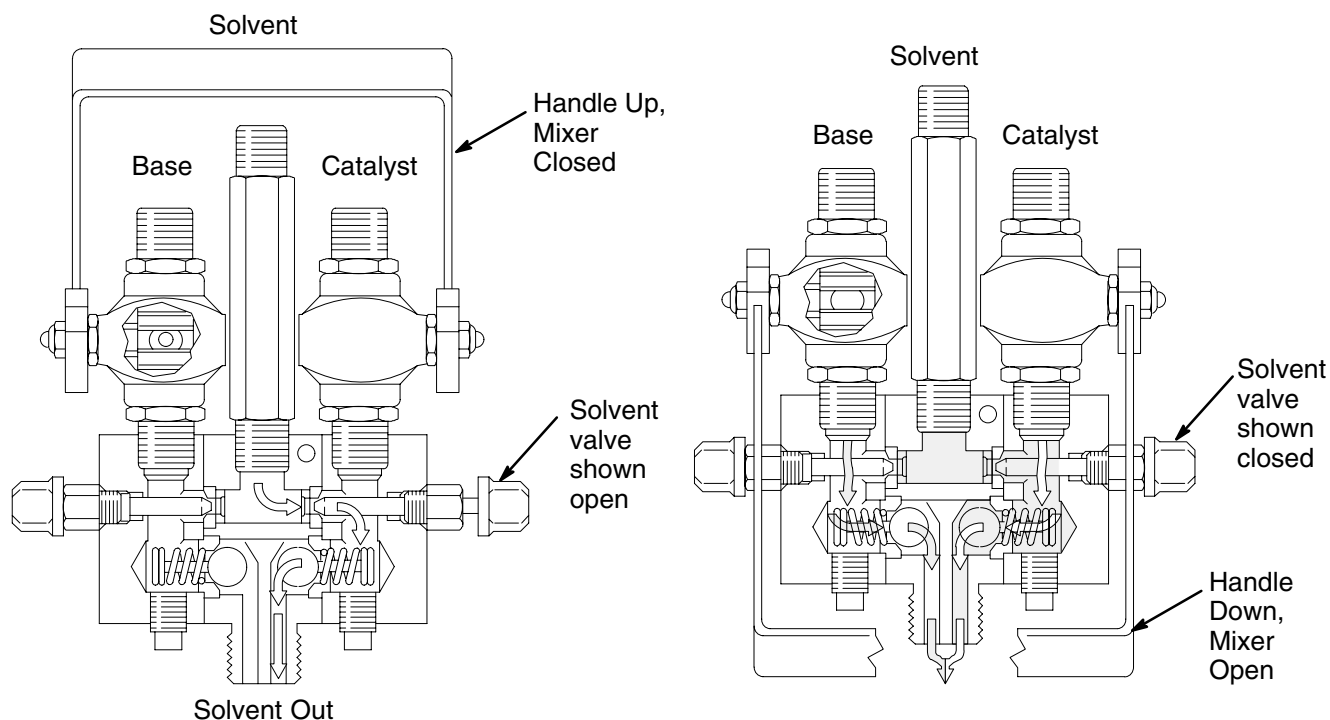

Fig. 7
NOTE: To open the mixer manifold (120), put the handle in the down position. To close the mixer manifold, put the handle in the up position. See Fig. 7.
NOTE: To open the mixer manifold (120), put the handle in the down position. To close the mixer manifold, put the handle in the up position. See Fig. 7 on page 16.